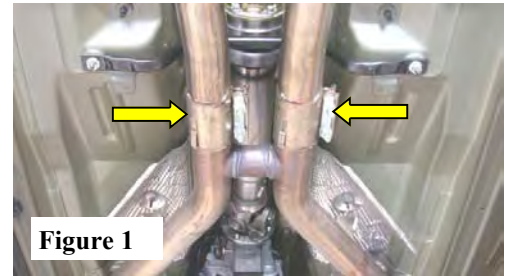

Figure 1
**Do not discard band clamps as they will be used for installation of your new exhaust.** (See Fig. 1)